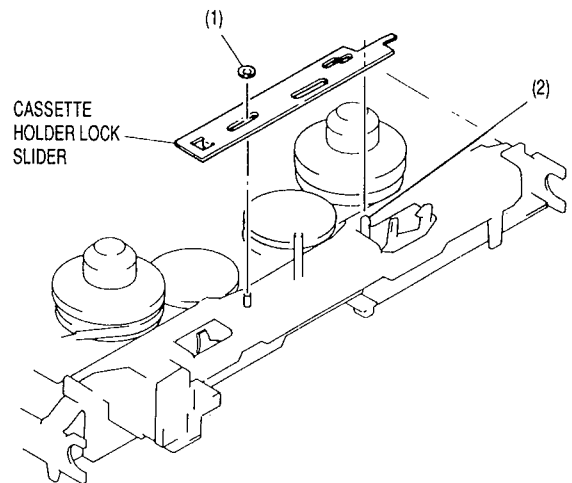

Fig. 3-29
- 1) Remove 1 washer (1) and release 1 tab (2). (See Fig. 3-29)